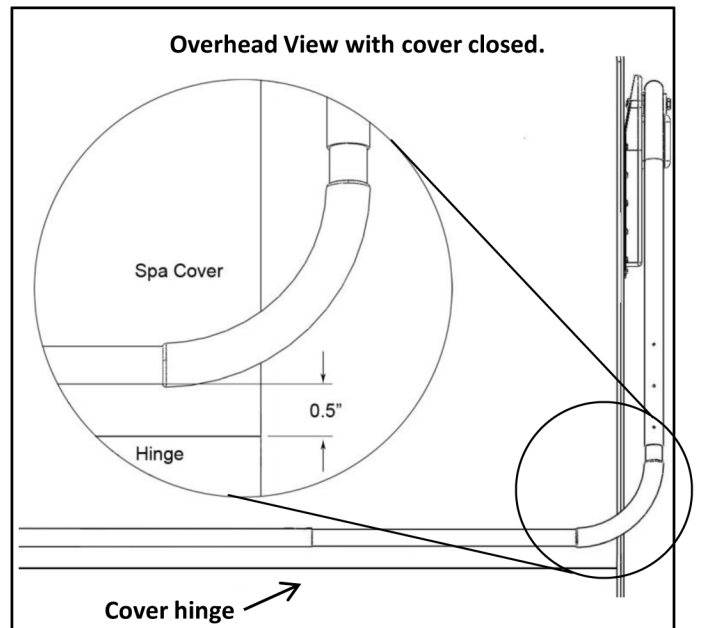

**Figure 7**
7. Insert the short arms of the Support Arms (EX-A) into the Pivot Arms (EX-B). See Fig 7.